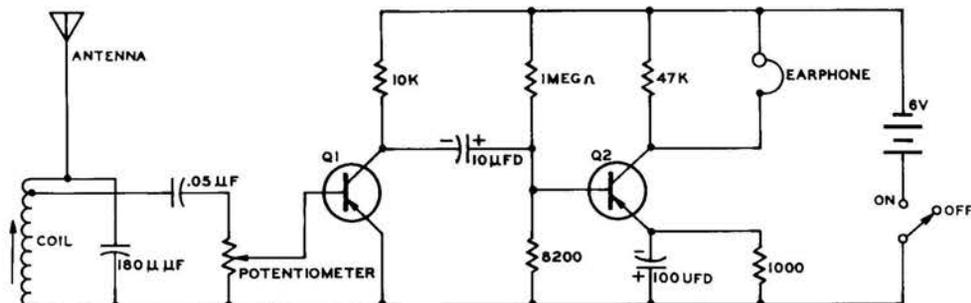

Figure 7L
Refer to Figure 7L for the following steps.
- () Connect a length of hookup wire from lug 2 of the 100 K Ω potentiometer (S) to lug 5 of terminal strip B (S).
- () Connect a length of hookup wire from lug 2 of the remote terminal strip (S) to the #6 solder lug (NS).
- () Mount the coil mounting bracket in position between terminal strips A and B as it is shown in Figure 7L. Install two #6 x 3/8" sheet metal screws into the bracket from below the chassis to hold it in place.
- () Connect the green lead of the RF tuning coil to lug 1 of terminal strip B (NS).
- () Connect the red lead of the RF tuning coil to lug 5 of terminal strip A (NS).
- () Connect the black lead of the tuning coil to lug 6 of terminal strip A (NS).
- () Connect a .05 μ fd disc capacitor from lug 1 of the 100 K Ω potentiometer (S) to lug 1 of terminal strip B (S).
- () Connect a 10 K Ω resistor from lug 3 (NS) to lug 4 (S) of terminal strip B.
- () Connect a 47 K Ω resistor from lug 1 (S) to lug 3 (NS) of terminal strip A.
- () Connect a 1 megohm resistor from lug 2 (NS) to lug 3 (S) of terminal strip A.
- () Connect a length of hookup wire from lug 6 of terminal strip B (S) to lug 5 of terminal strip A (NS).
- () Connect a 1000 Ω resistor from lug 4 of terminal strip A (NS) to lug 5 of terminal strip A (NS).
In the experiment for this lesson you assembled and wired the two-transistor radio shown in the schematic of Figure 7L on your experimental chassis. The input signal was received by your antenna, and from there it went to the tuned circuit. The stations that you tuned in were connected from a wire part way down the coil, through the $.05 \mu\text{fd}$ capacitor, to the volume control. From the volume control the signal was